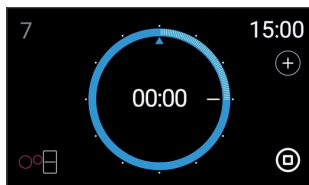

fig. 7
- 1 After choosing the timer period, press the  icon (fig. 7) which will light up in blue. When you remove your finger, the “Add Sound Alarm” option will scroll up from the bottom. You can add several sound alarms for the same zone. The “Sound
- To eliminate a “Sound Alarm”, drag the blue triangle (fig. 7), to the 00:00 position of the time ring.